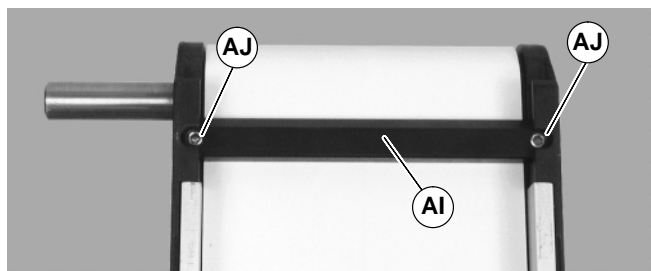

Figure 15
1. If equipped, remove bottom wipers (AI of Figure 15): Remove fastening screws (AJ) then remove wiper (AI).